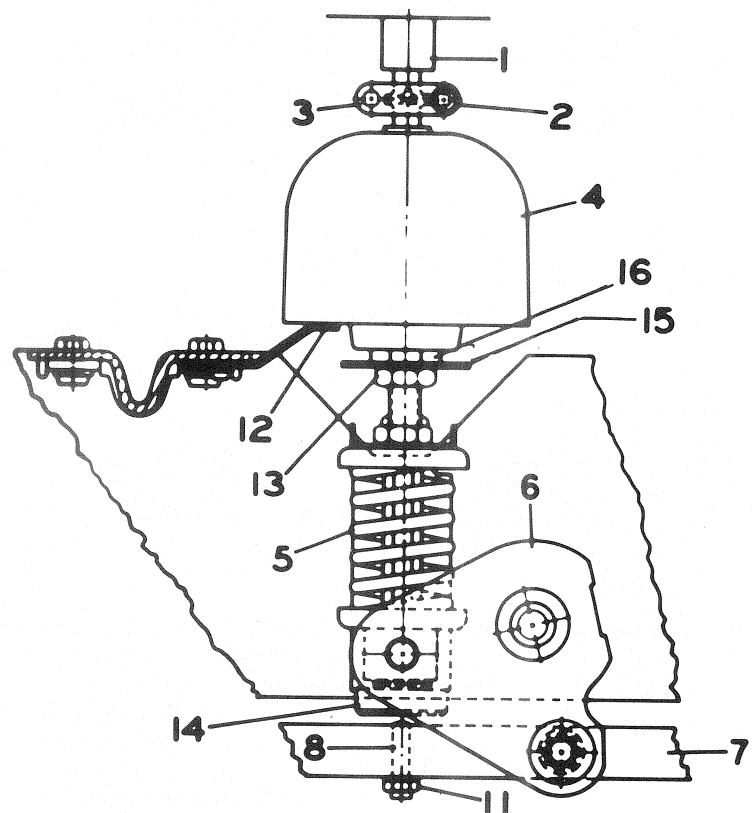

Fig. 12 Primary Contact Gap and Erosion Indication
To adjust, loosen the locking nut, (53) Fig. 4 (¾ hex) holding the stop bolt to the horizontal connecting bar, and then unscrew the stop bolt (¾ hex) to decrease latch clearance while pushing the manual trip push button in and out until the trip roller just starts to turn. (NOTE: Before making adjustments to the trip latch clearance the overtravel stop bolts, (8) Fig. 12, should be backed out of the horizontal connecting bar two turns.) Now, screw in on the adjusting bolt until the roller no longer turns plus an additional ¼ turn. Torque the lock nut to 55 foot-pounds while holding the adjusting screw. This sets latch clearance at a minimum and any mechanism wear will tend to increase the clearance. When 0.060 inch clearance is reached readjustment will be required.
Refer to Fig. 12. Six adjustable bolts, (8) are threaded into the horizontal connecting bar to provide stops for each pole to prevent overstroking the Power/Vac* interrupters. Each of these bolts should be backed out of the horizontal connecting bar two turns prior to performing adjustments to
Wipe is the additional compression of the pre-loaded wipe spring, (5) Fig. 12, which is used to apply force to the closed vacuum interrupter contacts. Proper adjustment of the wipe springs is necessary to assure that the vacuum interrupter contacts will stay closed against the forces which tend to open them due to fault currents and to supply the propelling energy required to attain the correct opening speed needed for a clean interruption of the current.
- (3) Measure the position of the Operating Rod (4) Fig. 12, relative to the breaker frame. Measure all three phases. (SUGGESTION: place a piece of masking tape vertically on the operating rod and using a block (approx. 2" height) that spans the frames draw a line on the tape to indicate the position when the breaker is closed. Leave the tape in place and in step 6 draw another line on the tape when the breaker is opened. The distance between these lines is the gap for that phase.)
- (4) Remove the trip latch blocking bolt installed in Step 1 and open the breaker by pushing the manual trip push button.
- (5) Repeat Step No. 2 to measure the position of the wipe indicator with the breaker open. Subtract the two measurements of the screw length to obtain the wipe of each phase.
- (6) Repeat Step No. 3 to measure the position of Operating Rod with the breaker in the open position. Subtract the two measurements to obtain the vacuum interrupter contact gap for each phase. (If the suggestion in Step 3 was followed, remove the tape from the operating rod, place it on a flat surface and measure the gaps directly as the distance between the two lines on the tape.)
- (7) Compare the wipes and gap measured with the following chart:
3. Loosen but do not remove the $\frac{1}{4}$ " hex bolts holding the coupling clamp, (2) Fig. 12. Be sure that the clamp can be rotated freely by hand.
4. Hold the hexagon projection at the bottom of the Operating Rod (1- $\frac{1}{8}$ " wrench) and loosen the adjacent lock nut (13) Fig. 12 (15/16" wrench).
6. After completing the adjustment, torque the Operating Rod Locknut, (13) Fig. 12, to 40-50 foot-pounds while preventing the Operating Rod from turning. Tighten the coupling clamp screws to 10-12 foot-pounds.
In the closed position, the indicator disc, (15) Fig. 12, below the operating rod is aligned with a reference arm (12) on new interrupters. With the breaker in the closed position, the indicator disc after inservice fault interruptions will move upward from alignment with the reference point due to contact erosion. Contact erosion will decrease the wipe which may be brought back to normal by performing wipe adjustment. When erosion reaches $\frac{1}{8}$ inch (the misalignment of the indicator disc and the reference arm with the breaker closed) the interrupter should be replaced.